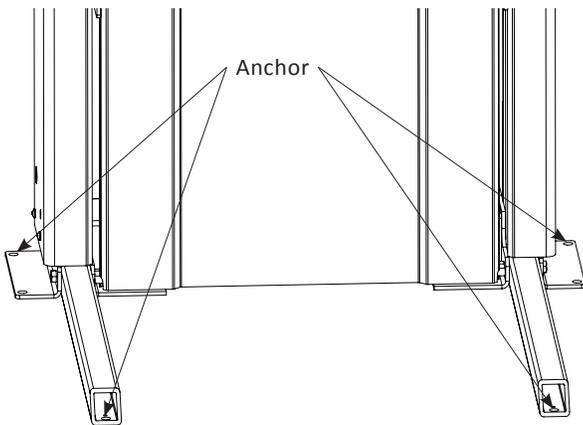

Figure 4-12
Install two (2) anchors at the back of the tower and two (2) anchors into the tower legs. *See figure 4-12.*